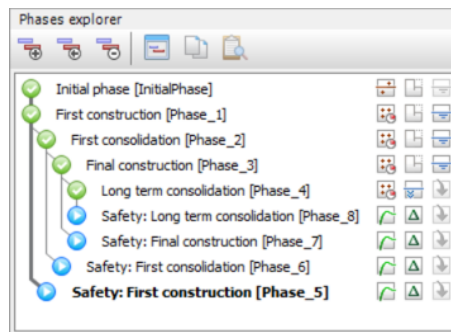

Figure 6–15: Phases explorer displaying the Safety calculation phases
8. Follow the same steps to create new calculation phases that analyse the stability at the end of each consolidation phase. In addition to selecting **Safety** as calculation type, select the corresponding consolidation phase as the **Start from phase** parameter. The **Phases** explorer displaying the **Safety** calculation phases is shown in Figure 6–15 \(p. 128\).